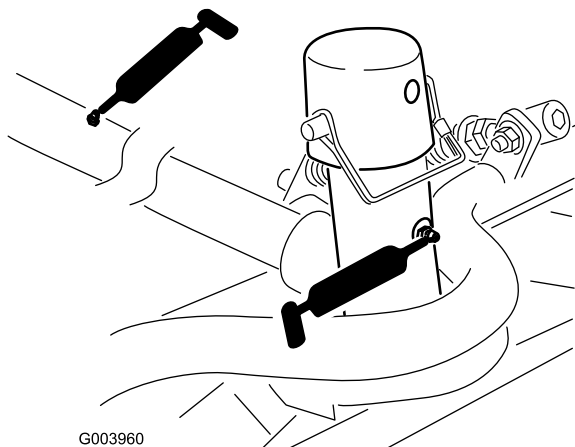

Figure 40
- Cutting unit carrier frame and pivot (2 each) (Figure 40)